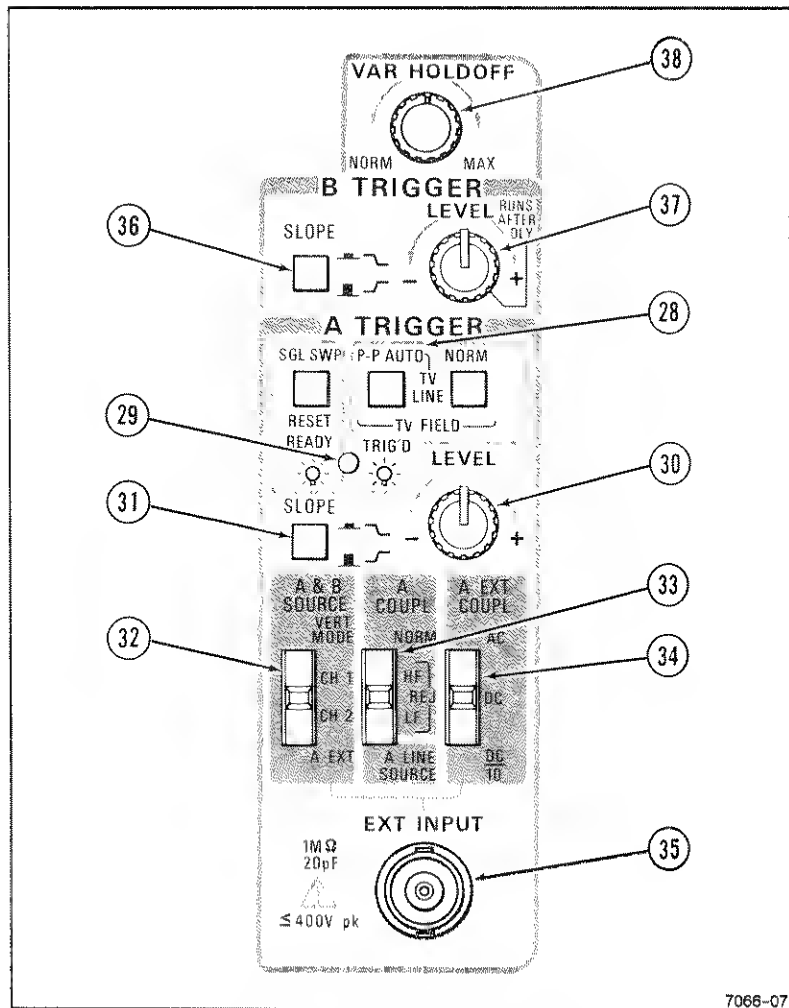

Figure 3-4. Trigger controls, connector, and indicator.
Refer to Figure 3-4 for location of items 28 through 38.